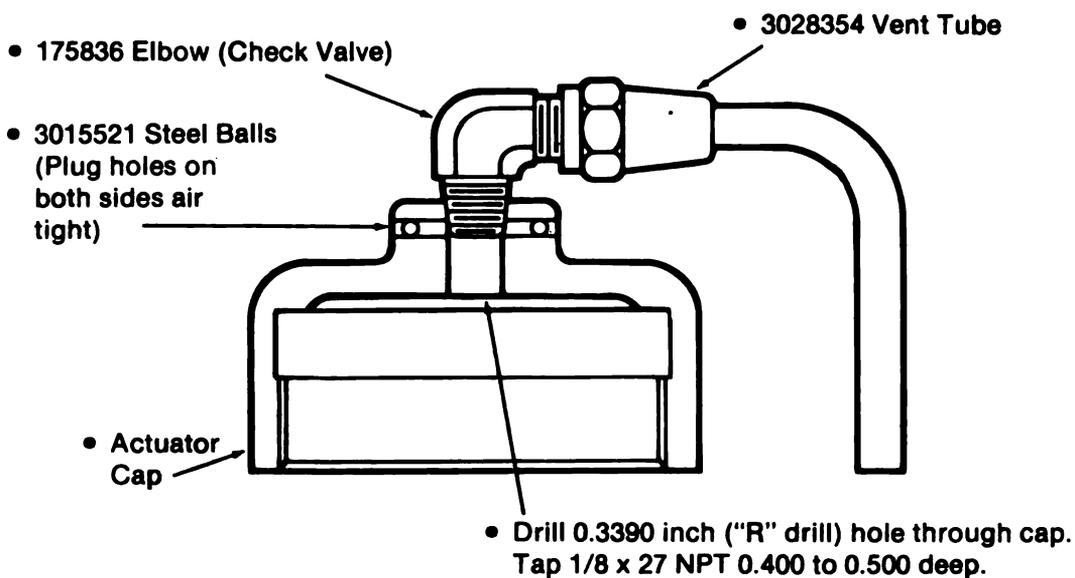

Fig. 4-42. Part No. 3028355 MVT Kit (Actuator Cap)
- d. Use four capscrews and lockwashers to fasten the actuator to the cam follower housing. Tighten the capscrews to 15 to 19 ft.-lbs. [20 to 26 N•m] torque. The solenoid must be in the position shown in Fig. 4-42.
29. Install the Part No. 175836 Check Valve, the Part No. 3028354 Vent Tube and the Part No. 3015521 Steel Balls (2) from the MVT Kit into the actuator cap.
- a. Drill a hole through the center of the actuator cap as shown in Fig. 4-42. Use a 0.339 in. diameter ("R" drill) drill bit to drill the hole. Tap the hole with a 1/8 × 27 NPT tap. Tap the hole to a depth of 0.400 to 0.500 inch [10.2 to 12.7 mm] as measured from the top of the cap.
- b. Enlarge the 1/8 inch diameter lockwire holes that are in the top of the cap to a diameter of 0.1850 inch. Use a No. 13 drill bit to enlarge the holes. Drill from each side of the cap to a minimum depth of 0.1875 inch [4.76 mm] for each hole, Fig. 4-42.
- d. Install one Part No. 3015521 Steel Ball into the enlarged hole on each side of the actuator cap, Fig. 4-42.
- e. Install the Part No. 175836 Check Valve into the actuator cap, Fig. 4-42. Tighten the check valve to 10 in.-lbs. [1.1 N•m] torque. The outlet on the check valve must position so that the vent tube will not be against any part of the engine.
- f. Install the Part No. 3028354 vent tube onto the check valve, Fig. 4-42.